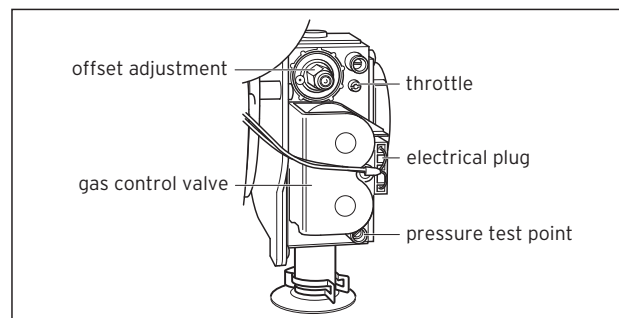

Fig. 5.3 Gas control valve
After purging, the gas service union connection must be re tightened and tested for soundness. (The boiler itself does not require purging as this will be done by the automatic burner sequence control). The gas valve is factory set for natural gas (G20) and should need no adjustment. The supply pressure should be checked when the boiler is firing at full rate. Check the inlet pressure at the pressure test point on the gas valve shown in fig 5.3 the values should be between those shown below.
The nominal operating pressure at the gas meter outlet should be between 19 and 23 mbar. The gas valve within the appliance is factory set for Natural Gas G20 and should need no adjustment. The appliance is designed to operate with an inlet pressure to the appliance of 20 mbar when the appliance is operating at the maximum heat input. The inlet working pressure to the appliance is measured at the appliance multi-functional gas valve on the valves inlet pressure test point, see fig. 5.3. Due to internal appliance pressure losses the reading at the inlet of the appliance gas valve may be lower than the design pressure of 20 mbar.
- Ensure that the gas supply pressure is in the range 34 - 37 mbar. The gas inlet working pressure can be checked at the pressure test point on the gas valve (fig 5.3.).